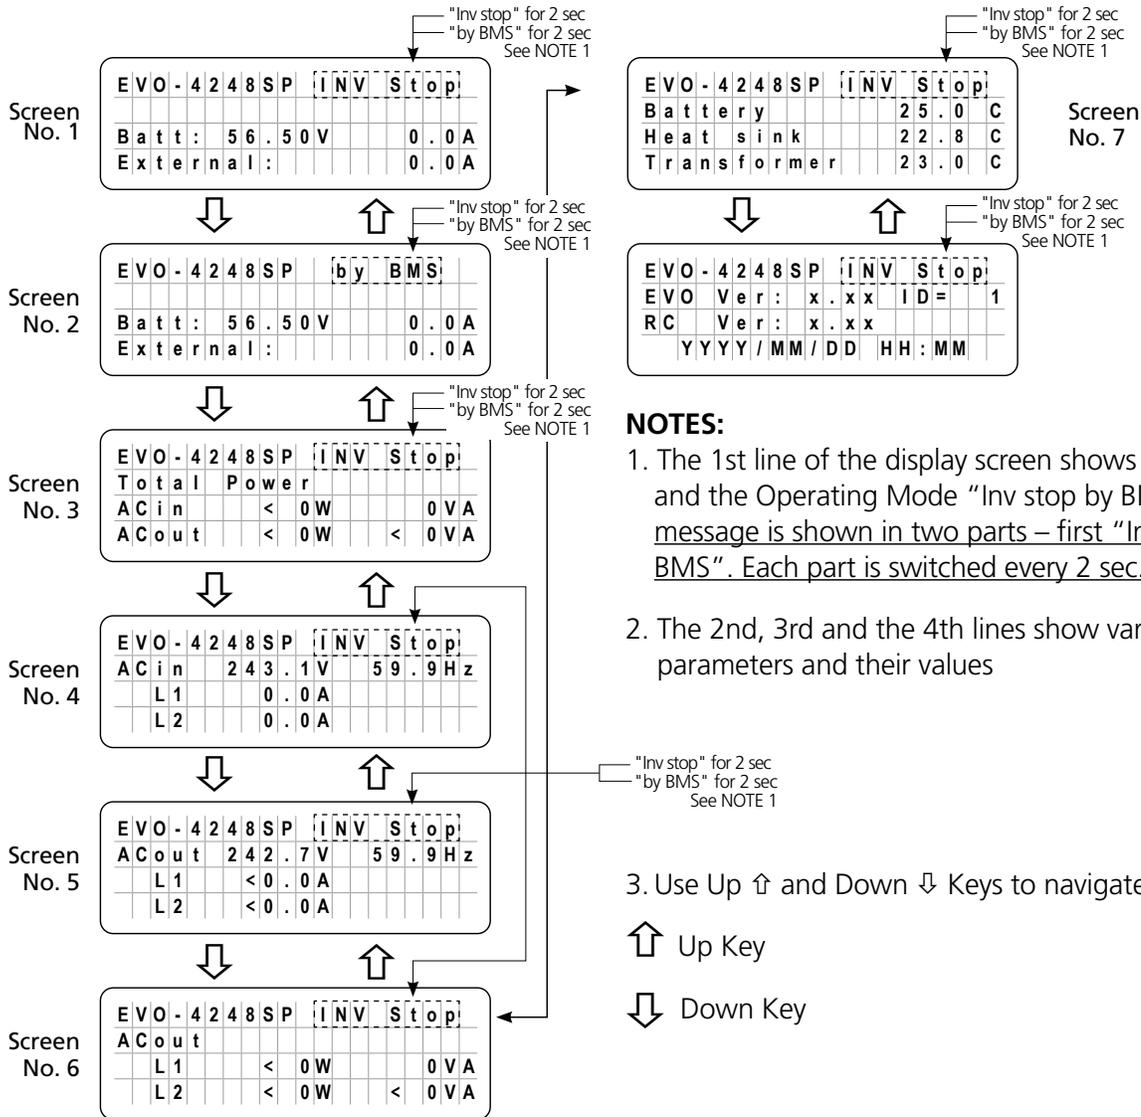

Fig 3.8(c) Menu Map for Inverting Mode Screens for Model EVO-4248SP when Inverting is Stopped by the Lithium Ion Battery Management System (BMS)
Menu Maps shown in Figs 3.8(a) to 3.8(c) for various EVO™ models are applicable when parameter "BATTERY TYPE" is set for option "1 = Lithium" (See Section 4.4.2.22.1). Screens shown below will be seen when the Battery Management System (BMS) of Lithium Battery sends a command (*potential free contact closure signal*) to pins 4 and 5 of the RJ-45 Temperature Sensor Jack on the EVO™ Inverter/Charger (*Temperature Sensor is not required for Lithium Battery*) to stop inverting to protect the Lithium Battery from deep discharging condition. Please see details at Section 4.4.2.22.
Menu Maps for this operating condition are shown in Figs 3.8(a) to 3.8(c).
3.6.9.1 Menu Map for Inverting Mode Screens for Models EVO-1212F/EVO-1212F-HW/EVO-1224F/EVO-1224F-HW When Inverting is Stopped by Lithium Ion Battery Management System (BMS) [Refer to Fig 3.8(a)]
Fig 3.8(a) Menu Map for Inverting Mode Screens for EVO-1212F/1212F-HW/1224F/1224F-HW when Inverting is Stopped by the Lithium Ion Battery Management System (BMS) (Model shown is EVO-1212F)
Fig 3.8(b) Menu Map for Inverting Mode Screens for Models (i) EVO-2212 / 3012 / 2224 / 4024 and (ii) EVO-2212E / 3012E / 2224E / 4024E when Inverting is Stopped by the Lithium Ion Battery Management System (BMS) (Model No. shown is EVO-3012)
Refer to Fig 3.8(c)